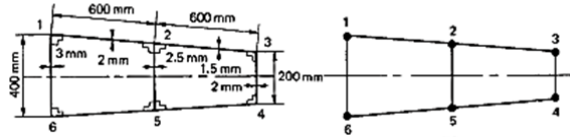

Figure 5
7. (a) Part of a wing section is in the form of the two-cell box shown in Figure 5 below in which the vertical spars are connected to the wing skin through angle sections all having a cross sectional area of 300mm^2 . Idealize the section into an arrangement of direct stress carrying booms and shear stress only carrying panels suitable for resisting bending moments in a vertical plane. Position the booms at the spar/skin junctions. [7M]